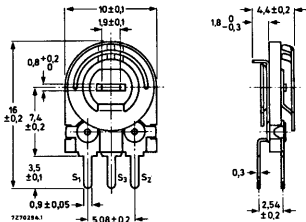

Fig.2a
- 30 = for vertical mounting (Fig.2a)